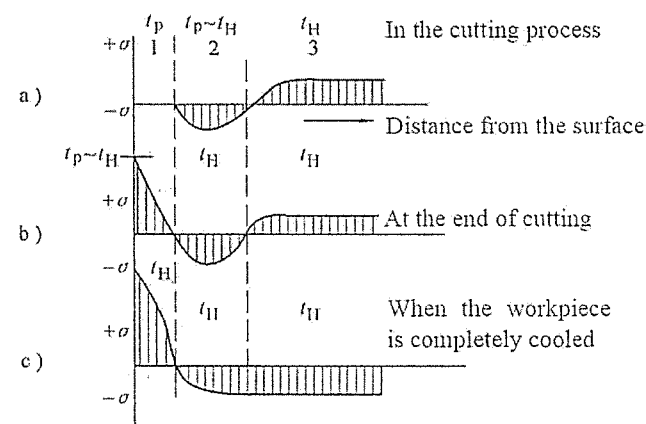

Figure 6
- (2) ① 尺寸分散范围 Δ 是由随机误差造成的, 随机误差越大, 尺寸越分散, 随机误差不能消除, 但可以找到误差产生的原因, 对随机误差进行控制
- ② 两批工件尺寸分散中心的偏移量 ΔL 是由常值系统性误差造成的, 常值系统误差可以在加工时给予一个补偿来消除
- (3) 两批工件均不出废品条件: $T \geq \Delta + \Delta L$
12. Analyze the influences of cutting heat on residual stress on the machined surface of the workpiece in the cutting process, at the end of cutting and when the workpiece is completely cooled in the machining process based on Figure 6. Here, t_H representing room temperature when the workpiece has high plasticity and t_p refers to the temperature; $+\sigma$ and $-\sigma$ represent tensile stress and compressive stress, respectively; 1, 2 and 3 represent three layers of metal at different distances from the workpiece surface, respectively. (6 points)